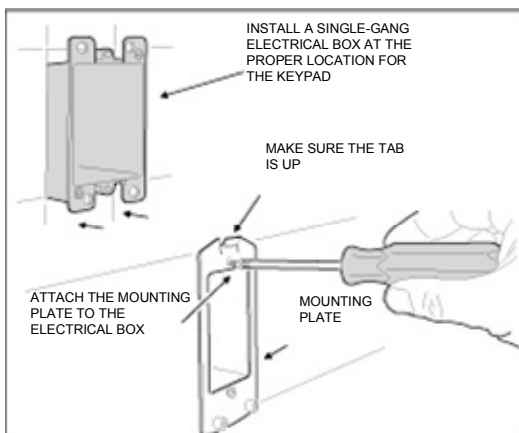

Fig. 4 Installing the Mounting Plate
- Screw the mounting plate onto the electrical box. (see Fig. 4)